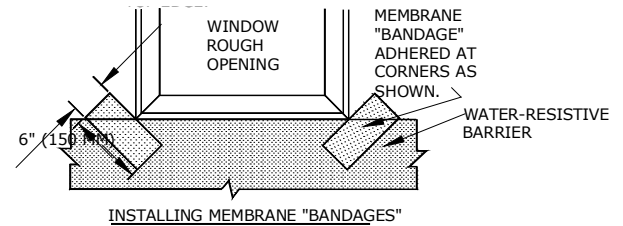

Fig. 9.1
- Cut and staple a 12 in. (30 cm) wide strip of Tyvek® StuccoWrap™ or code-approved water resistive barrier in line with bottom edge of the rough opening extending past jambs approximately 12 in. (30 cm) on each side. Staple top edge only (Fig. 9.1).
- Cut self-adhering flashing membrane to approximately 4 in. (10 cm) x 6 in. (15 cm). Remove backer paper and install diagonally at sill corners (Fig. 9.1).